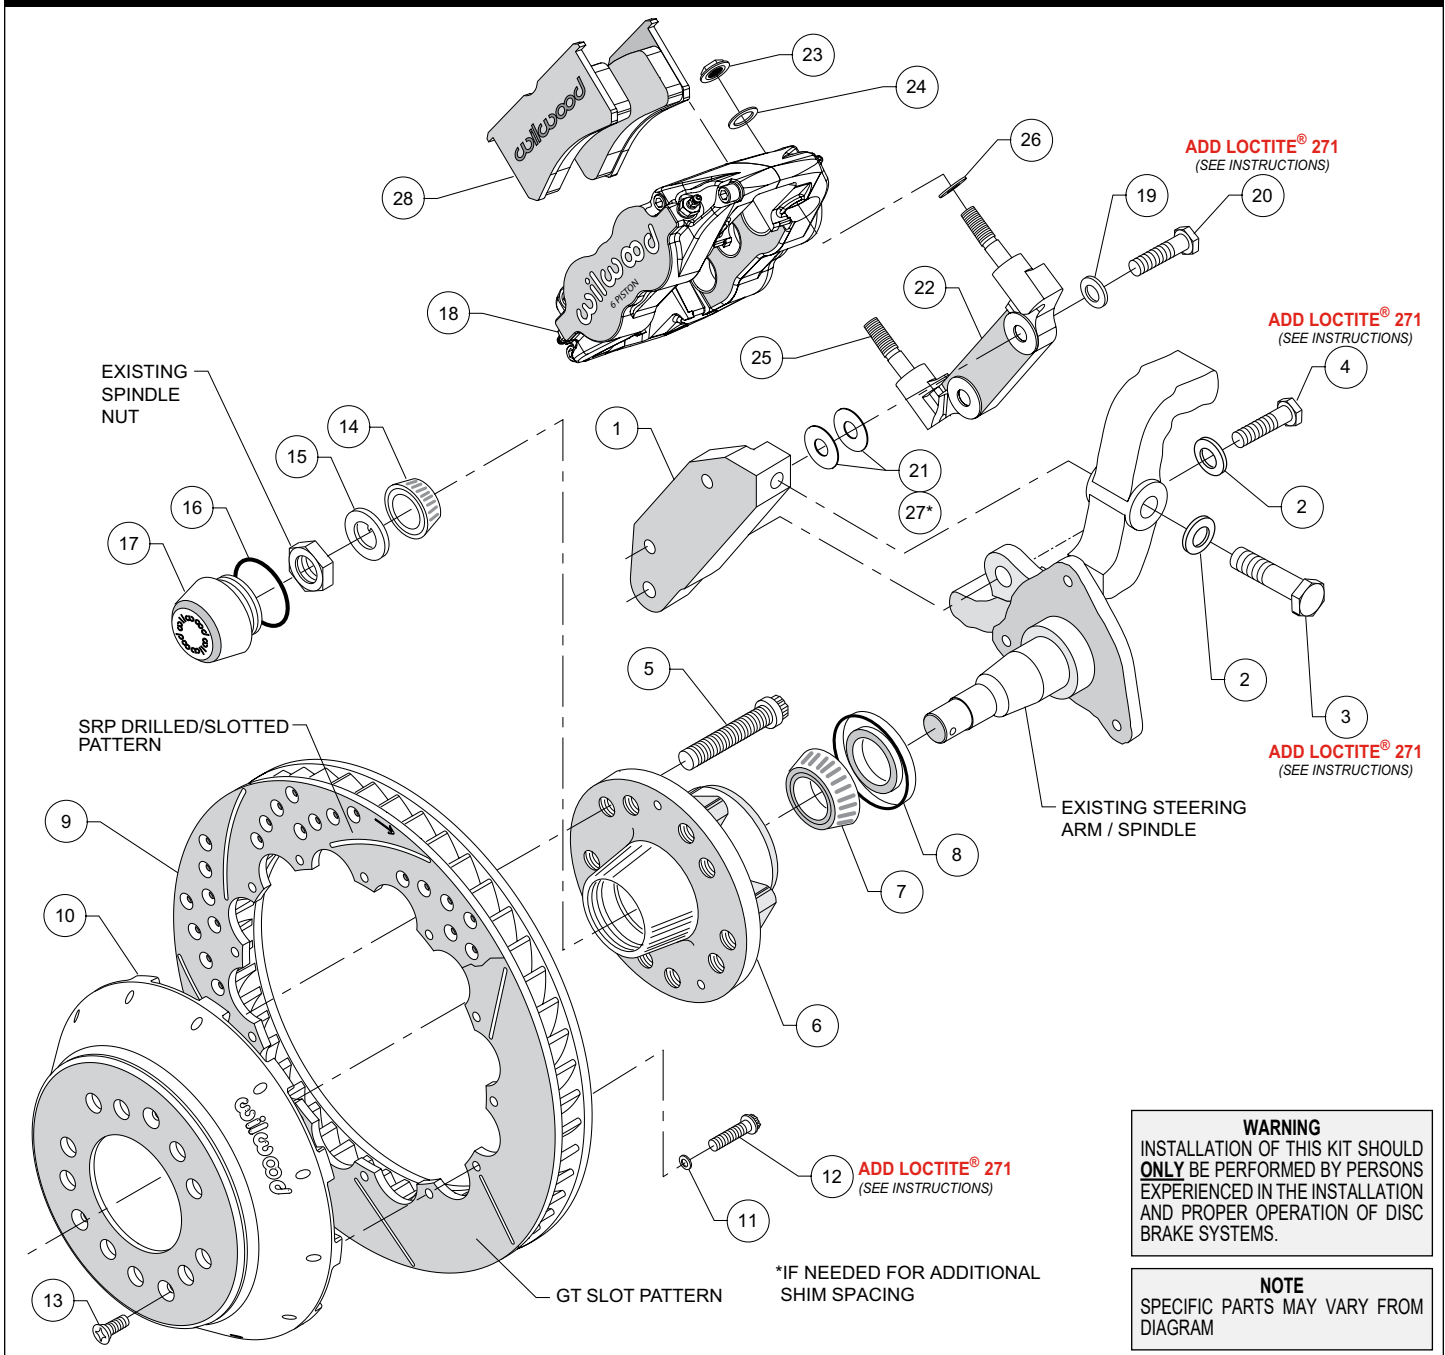

Figure 1. Typical Installation Configuration
- Mount the radial mount caliper bracket (22) to the first “flat” caliper mounting bracket (1) from the far side using washers (19) and bolts (20), as shown in Figure 1. Initially place two .030 thick shims (21) between the two brackets (1 and 22). Temporarily thighten the bolts.
- NOTE:** *This kit contains distinct right and left hand calipers that must be mounted in a specific direction, as described below.* Initially place one .035” thick shim (26) on each stud as shown in Figure 1. Mount the caliper (18) onto the bracket (1) using lock nuts (23) and washers (24), Figure 1. Ensure that the caliper is mounted so that the largest pistons are at the rotor exit end of the caliper, in relation to the direction of rotor rotation. Temporarily tighten the lock nuts and view the rotor through the top opening of the caliper. The rotor should be centered in the caliper. If not, adjust by adding or subtracting .030” shims (21), or add .015” thick shims (27), as necessary between the radial mount bracket (22) and the flat bracket (1). Always use the same amount of shims on each of the two mounting bolts. Once the caliper alignment is correct, remove the bracket mounting bolts (20) one at a time, apply red *Loctite*[®] 271 to the threads, and torque to 42 ft-lb.